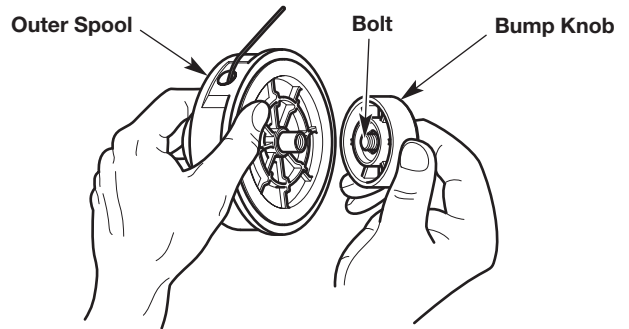

Fig. 16
1. Hold the outer spool with one hand and unscrew the bump knob clockwise (Fig. 16).